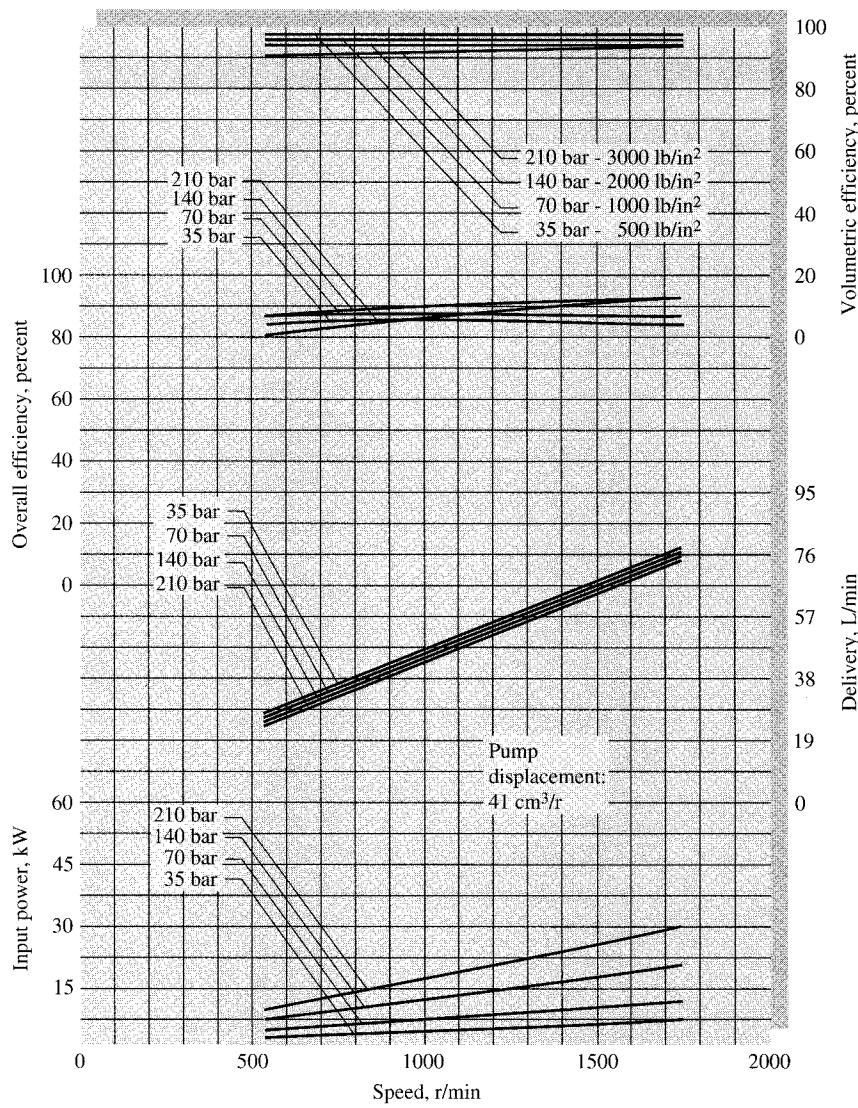

Fig. P11.9
**11.9** Figure P11.9 shows the measured performance of the Vickers Inc. Model PVQ40 piston pump when delivering SAE 10W oil at 180°F ( $\rho \approx 910 \text{ kg/m}^3$ ). Make some general observations about these data vis-à-vis Fig. 11.2 and your intuition about PDP behavior.
**11.10** Suppose that the pump of Fig. P11.9 is run at 1100 r/min against a pressure rise of 210 bar. (a) Using the measured displacement, estimate the theoretical delivery in gal/min. From the chart, estimate (b) the actual delivery; and (c) the overall efficiency.
**Solution:** (a) From Fig. P11.9, the pump displacement is  $41 \text{ cm}^3$ . The theoretical delivery is
(b) From Fig. P11.9, at 1100 r/min and  $\Delta p = 210$  bar, read
(c) From Fig. P11.9, at 1100 r/min and  $\Delta p = 210$  bar, read  $\eta_{\text{overall}} \approx 87\%$ . Ans. (c)